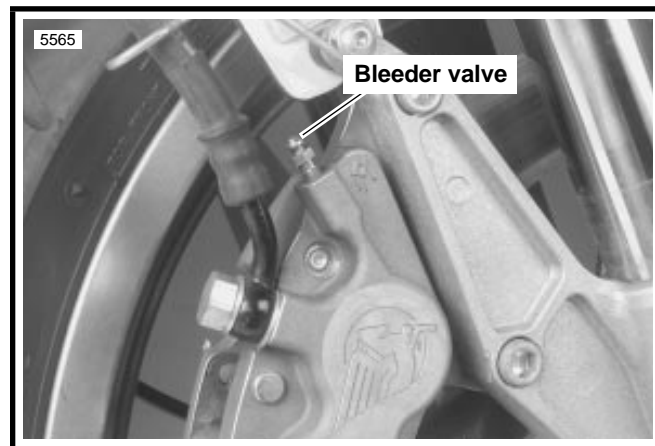

Figure 1-13. Front Brake Caliper Bleeder Valve
- a. Front brake caliper-Figure 1-13.